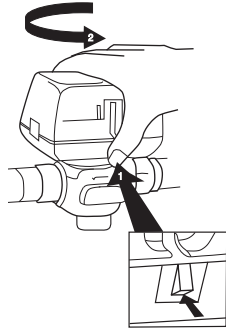

Fig. 6. Latch Mechanism to detach Actuator
4. The actuator head is automatically latched to the valve. To remove, press up on the latch mechanism located directly below the white manual open lever with thumb (See Fig. 6). Simultaneously press the actuator down towards the body with moderate hand force and turn the actuator counter-clockwise by 1/8 turn (45 degrees). Lift actuator off the valve body.